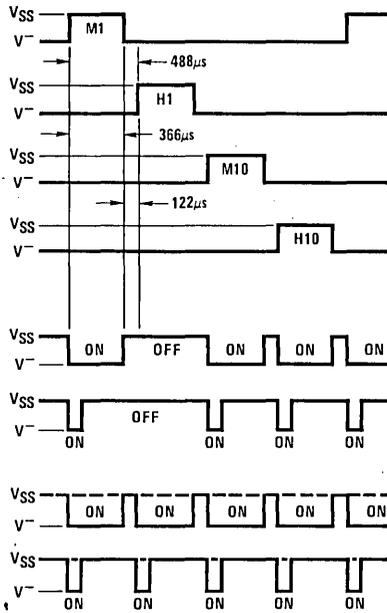
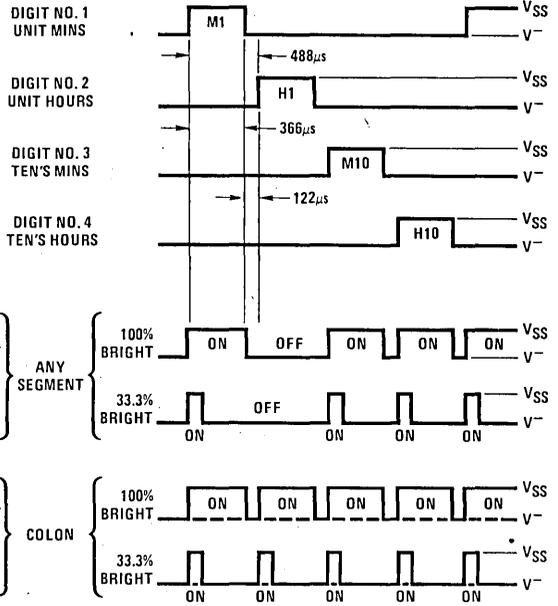

FIGURE 4. MM5379 Output Timing Diagram
FIGURE 5. MM5378 Output Timing Diagram
voltage(s) for a short time during inter-digit transitions, or (2) avoid physical adjacent inter-digit transitions. The MM5379 auto clock utilizes an interlaced output sequence and inter-digit blanking circuitry to prevent display arcing problems. The digit sequence is: (1) digit no. 4 (unit minutes), (2) digit no. 2 (unit hours), (3) digit no. 3 (ten's of minutes), (4) digit no. 1 (ten's of hours), etc. Blanking intervals are provided to recharge level-translating capacitors located in the display segment drive lines (Figure 6). Both segment data and digit enables are blanked. Figure 4 is a timing diagram which illustrates output timing for the MM5379. Figure 5 is a timing diagram which illustrates output timing for the MM5378.
**Brightness Control:** Since display brightness is a function of cathode segment current, a capability of interrupting this current for a variable percentage of the digit interval results in a brightness control. Depending on the magnitude of the voltage applied, the digit "ON" time will vary from 0% to 100% of its possible period in 8 1/3% increments. This is illustrated in Figures 4 and 5.